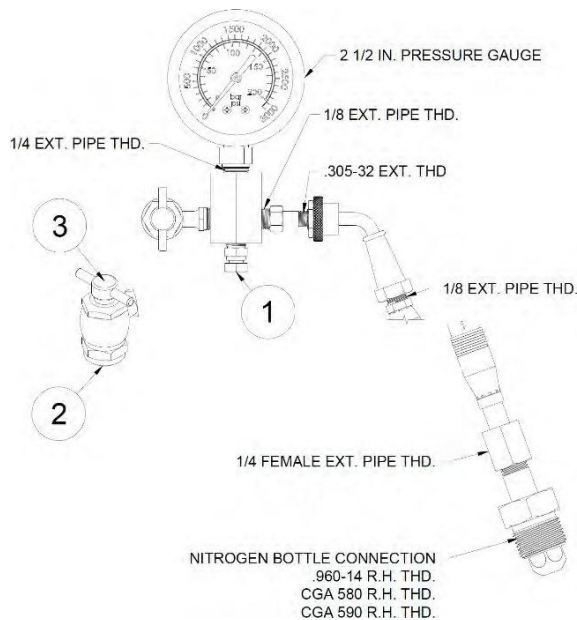
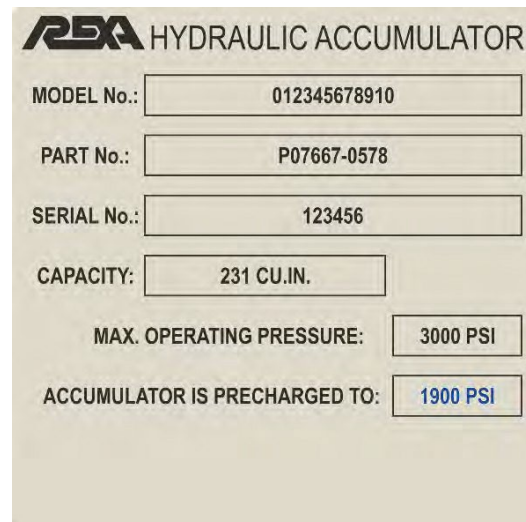

Figure 9: Charging Kit
Figure 10: Bottle Pressure Tag
3. Add nitrogen using appropriate charge kit (REXA part number K09851-3000). See Figure 9 below. Using the Pre-Charging Procedure, DOC134, add nitrogen until the pressure reaches what is shown on the bottle tag (typically 1900 psi) shown in Figure 10.
Back out the gas chuck "T" handle (Figure 9: Item 3) all the way (counterclockwise) before attaching charging assembly to accumulator gas valve.
Close the bleed valve using a 7/16" wrench (Figure 9: Item 1).
Attach swivel nut to gas valve (Figure 9: Item 2) and tighten to 11-16 in-lbs. using an 11/16" wrench. Make sure not to loop or twist the hose.
When finished pre-charging the accumulator, turn "T" handle all the way out on the gas chuck (Figure 9: Item 3), then open the bleed valve (Figure 9: Item 1).